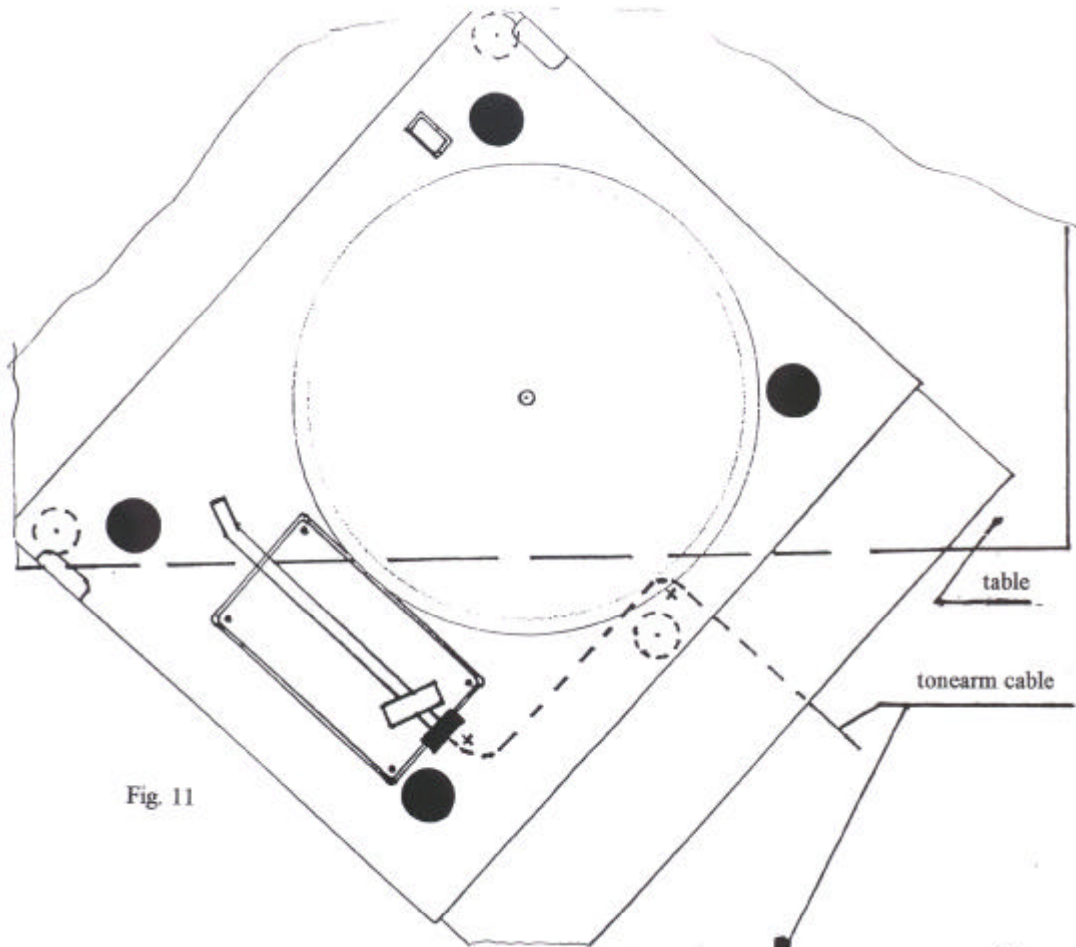

Fig. 11
- ii) Position turntable so that right rear corner extends well over table edge (back leg should extend over edge). (Fig. 11)